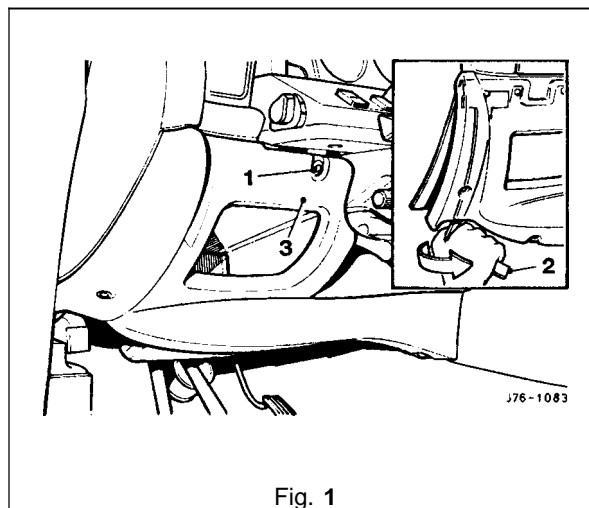

Fig. 1
- Undo and remove the underscuttle pad securing screws (1 Fig. 1).
- Using special tool JD 188 (2 Fig. 1), displace securing clip.
- Displace and reposition the underscuttle pad assembly (3 Fig. 1).